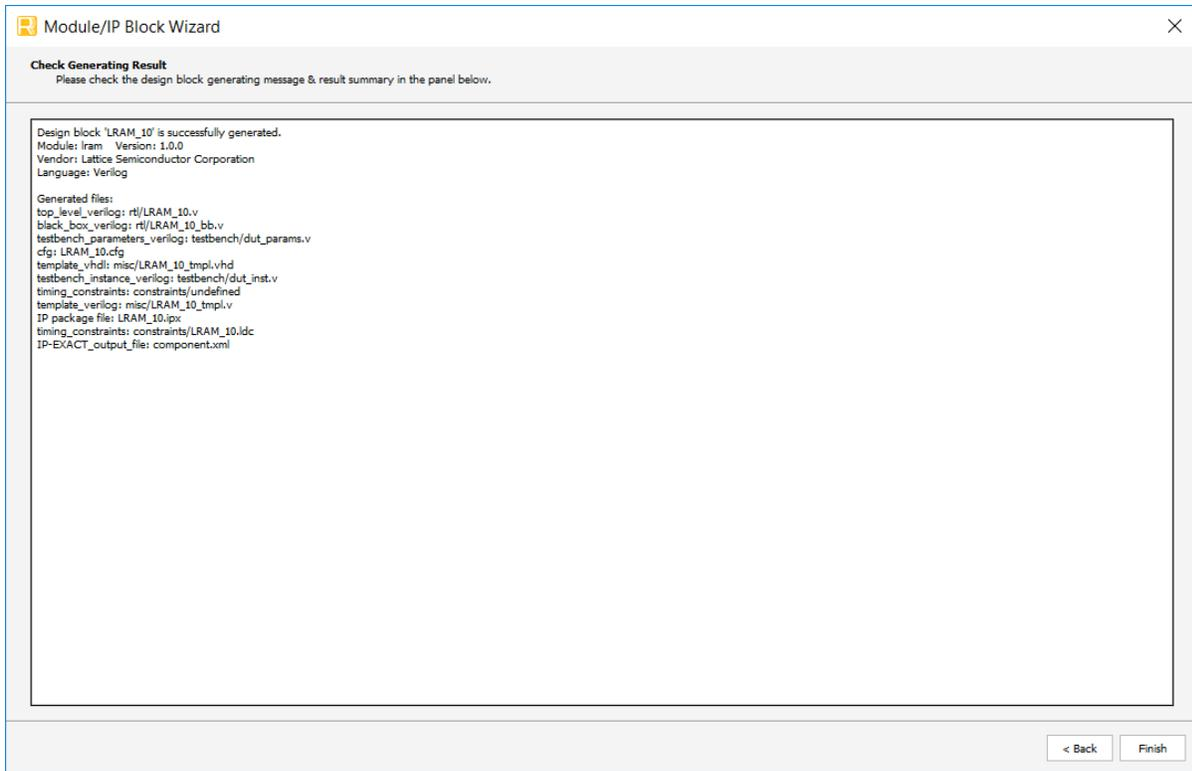

Figure 4.2. Check Generating Result
3. Click **Generate**. The **Check Generating Result** dialog box opens, showing the design block messages and results as shown in Figure 4.2.